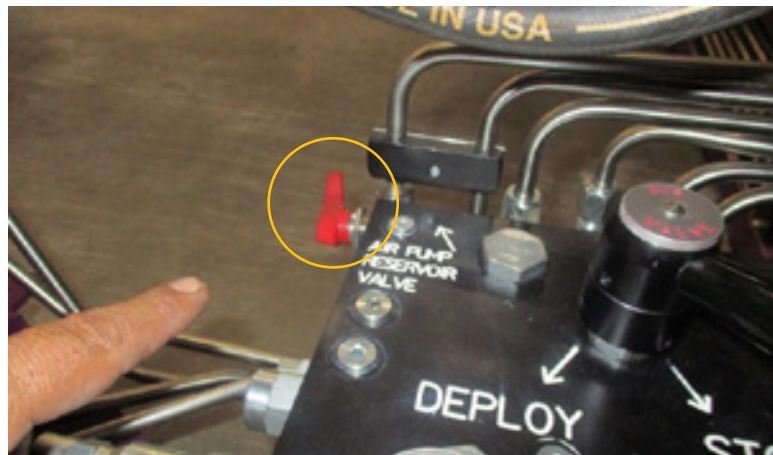

*Figure 5.26 A\B Valve is in OFF Position*
5.4.11 Rotate the A/B valve to the “OFF” position. Figure 5.26